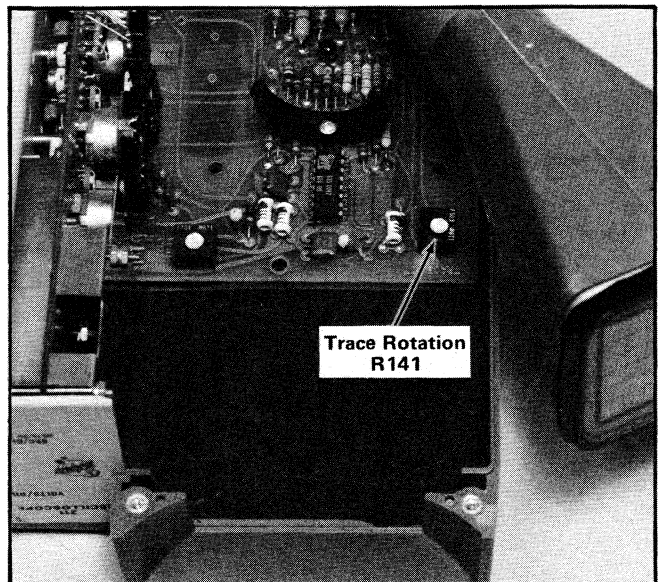

Fig. 4-2. Location of Trace Rotation adjustment.
c. ADJUST—Trace Rotation adjustment R141 (located on Amplifier Board; see Fig. 4-2) so the trace is parallel with the horizontal graticule lines.